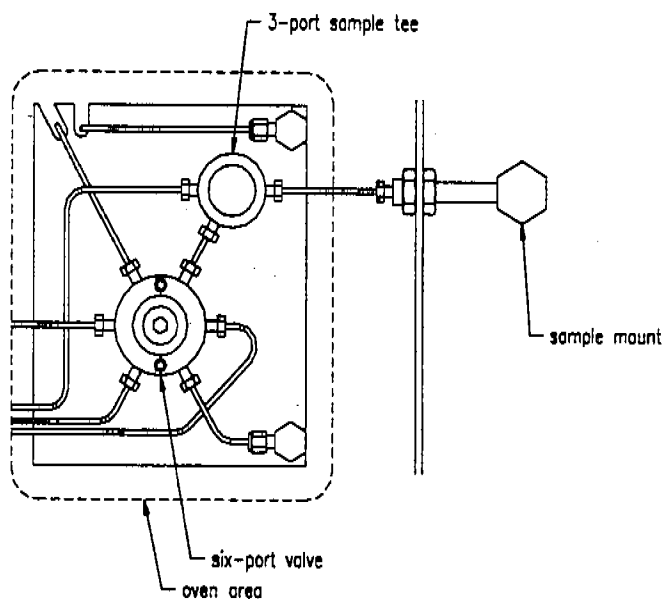
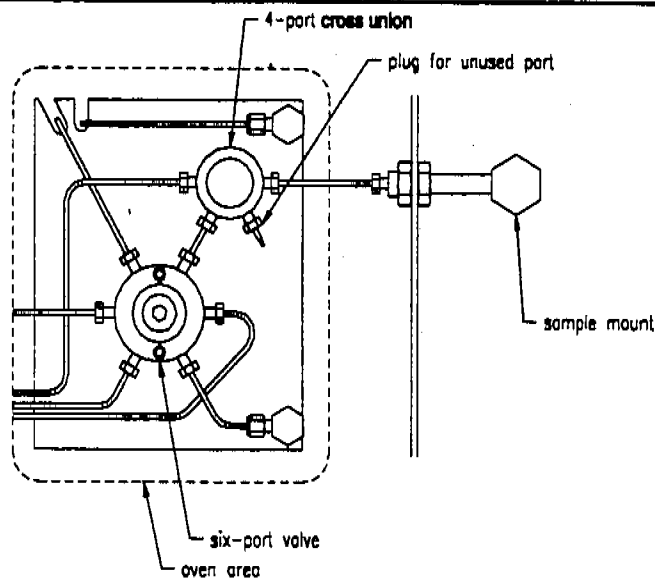

Figure 3-8 Tee Union (3-port Sample Tee)
Figure 3-9 Cross Union with One Port Plugged
7. A 3000 with a serial number of 95073002 or less contains a 3-port sample tee union (Figure 3-8). You must replace the sample tee union with a 4-port cross union before you can plumb the heated transfer line. The 4-port cross union is shown in Figure 3-9 below. Locate the cross union in Precept II's installation kit.
9. Referring to Figures 3-9 and 3-10, locate the cross union.